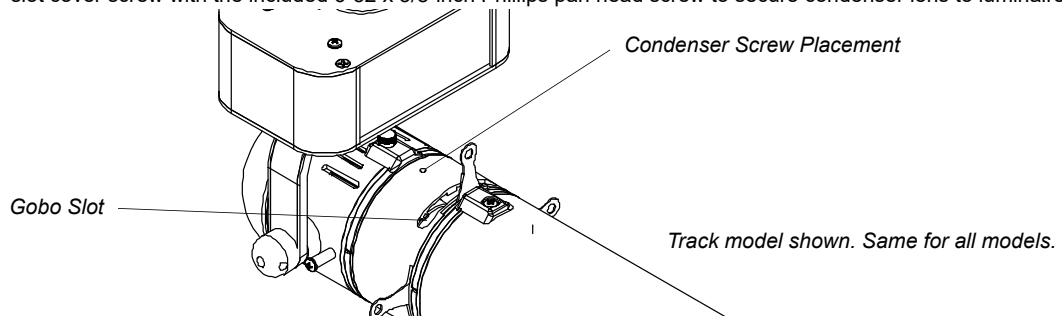

Figure 2: Gallery Gobo Rotator Install
Step 3. As shown in **Figure 2**, completely remove gobo slot cover and store for future use. **IMPORTANT!** you must replace gobo slot cover screw with the included 6-32 x 3/8-inch Phillips pan head screw to secure condenser lens to luminaire.